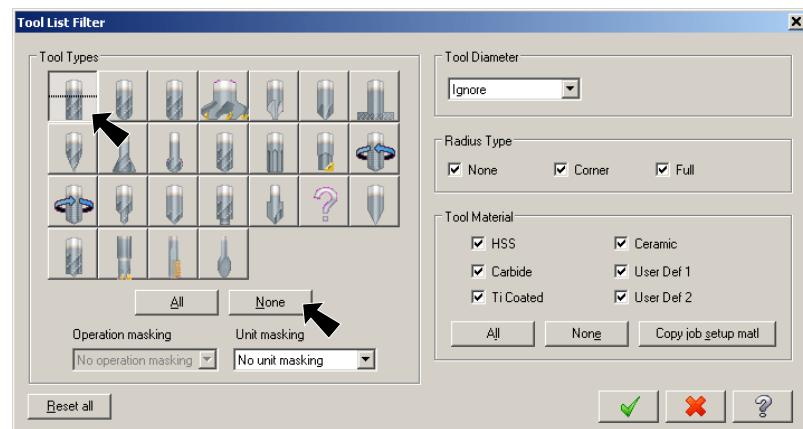

Fig. 40
Step 12. Click **None** under Tool Types **Fig. 40.**